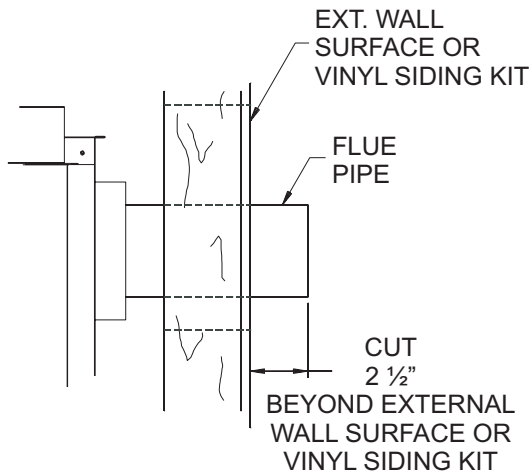
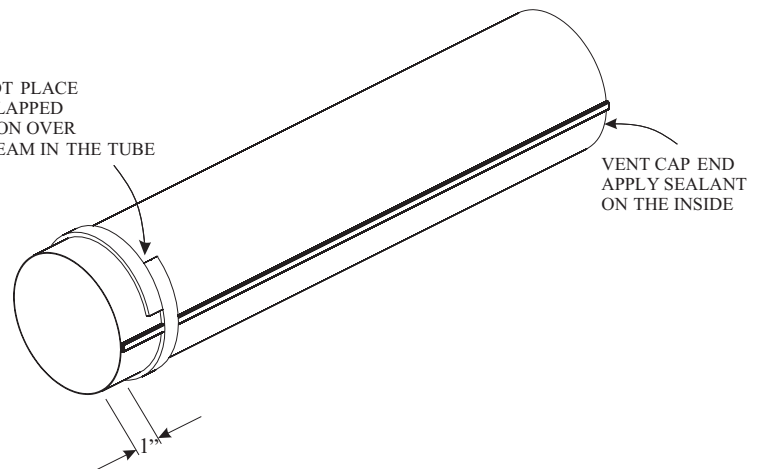

Figure 3B
Figure 4
8. Attach the 4" (102mm) diameter flue outlet tube onto the rigid venting system or directly to fireplace. Ensure the 4" (102mm) diameter flue outlet tube is placed as far as possible onto the rigid venting system. Mark the 4" (102mm) diameter flue outlet tube 2 1/2" (64mm) beyond the vinyl siding kit or wall. See Figure 3B. Remove the 4" (102mm) diameter flue outlet tube from rigid venting system. When installing directly to fireplace, tape gasket needs to be used.
10. From outside: Push the 6 5/8" (168mm) diameter inlet tube/mounting plate onto end of rigid venting system to correct position. Fasten the outside mounting plate to the vinyl siding kit or wall with (4) 10 x 1 1/2" screws. (Ensure upward slope).
11. From inside: Attach the inlet tube to the collar on the back of the fireplace (or the rigid venting system) using (3) self tapping screws.
12. Seal the 4" (102mm) diameter flue outlet tube. Follow instructions and diagram (Figure 4).
14. Fasten vent cap end using (3) 10 x 1/2" screws to mounting plate.
If the air inlet and flue outlet tubes are to be connected directly to the unit (no rigid venting system is being used), then the gasket provided must be used to seal the 4" (102mm) flue outlet tube. Peel the paper off the self-adhesive gasket and then wrap it around the end of the tube (if tube was cut, it is recommended to use cut end) as shown in Figure 4. Pull the gasket tight at all times while wrapping it around tube. The gasket ends should align, to form a complete seal. The overlapped section should NOT come in contact with the seam in the tube. Apply high temperature sealant to the opposite end of the tube (on the inside of the tube). The end with the gasket will attach to the back of the unit. Continue with Step 13.